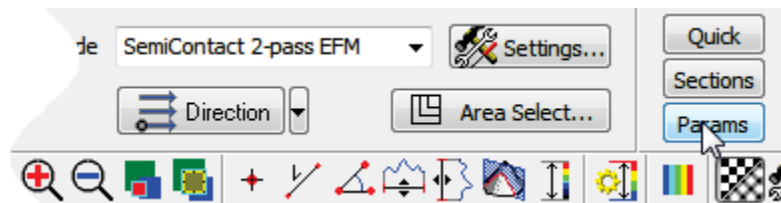

Fig. 9-21
1. Open the Additional Scanning Parameters panel by clicking the **Params** button in the **ScanForm** window (Fig. 9-21).